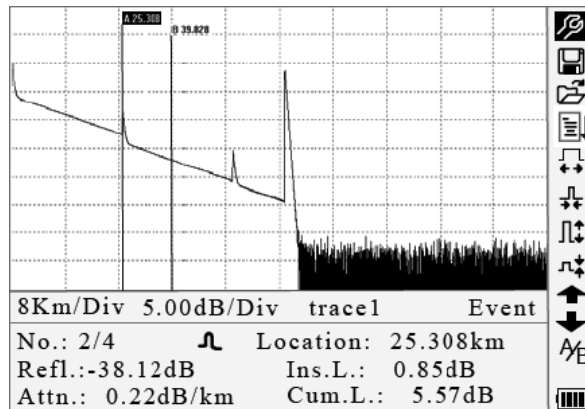
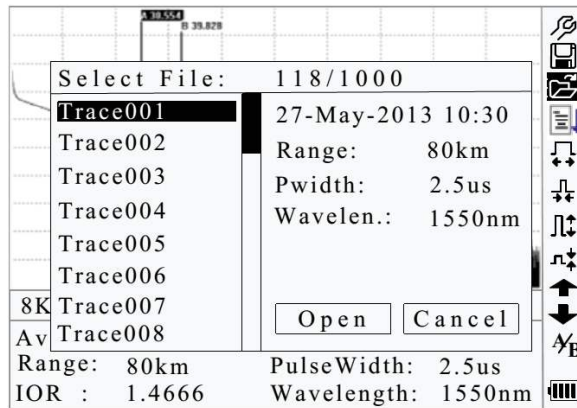

Figure 4-4. Trace Measurement
Figure 4-7. Browse Saved Traces
Note: After a certain period of time, the trace displays on the GUI. The trace in the figure below is a trace during measurement, which will be refreshed for every certain period of time to demonstrate the whole process in realtime. But at the end of measurement the trace will be complete, as shown in Figure 4-4.
Under GUI (Figure 4-4) press  and the items in the information window will display in this order: measurement parameters → analysis information → events list → marker A/B information → fiber information → measurement parameters.
Under GUI (Figure 4-4) press  until the events list information appears in the information window.
Under GUI (Figure 4-4) use  and  to highlight A/B, and then press Enter to switch between marker A/B.
Under GUI (Figure 4-4) press **↩** to switch information window to marker A/B information.
1. Under GUI (Figure 4-4) use **▲** and **▼** to highlight **↔**, and then press Enter to zoom out the trace horizontally.
Under GUI (Figure 4-4) use **▲** and **▼** to highlight **↔**, and then press Enter to zoom out the trace vertically.
1. Under GUI (Figure 4-4) use **▲** and **▼** to highlight **↕**, and then press Enter to zoom out the trace vertically.
Under GUI (Figure 4-4) use **▲** and **▼** to highlight **↕**, and then press Enter to zoom in the trace vertically.
1. Under GUI (Figure 4-4) use **▲** and **▼** to highlight **💾**, and then press Enter to enter (Figure 4-6).
1. Under GUI (Figure 4-4) use ▲ and ▼ to highlight , and then press Enter to confirm (Figure 4-7).